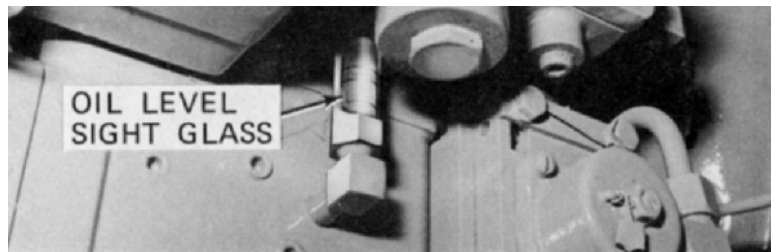

FIG. 14. ENGINE GOVERNOR LUBRICATION.
7. Governor Oil-Level Sight Glass - Located on the left side of the engine near the traction generator (see Fig. 14). Oil level must be visible between marks on the sight glass when the engine is running.
3. Check the governor oil supply. The sight glass on the governor should be full of oil. After the engine is started, the oil must be visible between the marks on the sight glass (see Fig. 14).